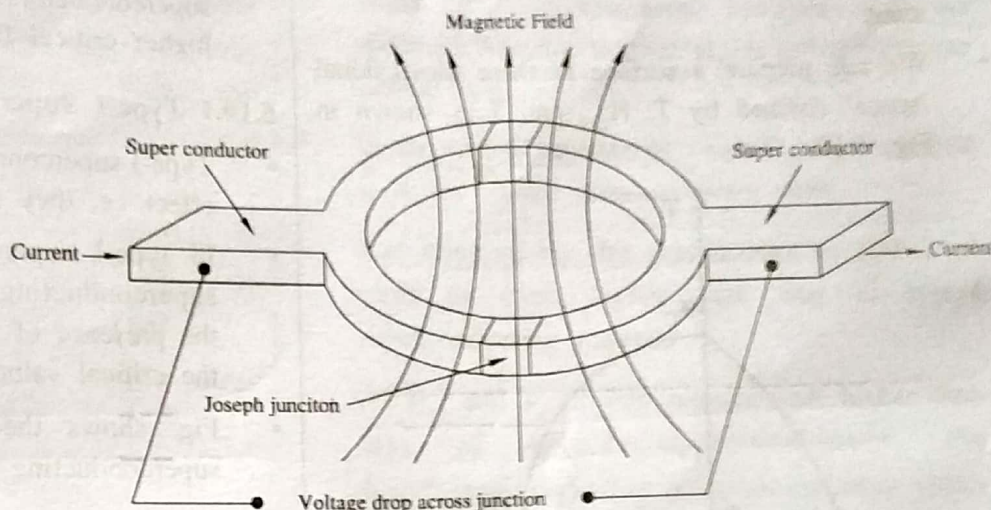

FIG. 5.9 : SCHEMATIC DIAGRAM OF SQUID
- As shown in Fig. 5.9, two superconductors and thin oxide insulation are arranged in such a way that, they form two parallel Josephson junctions.